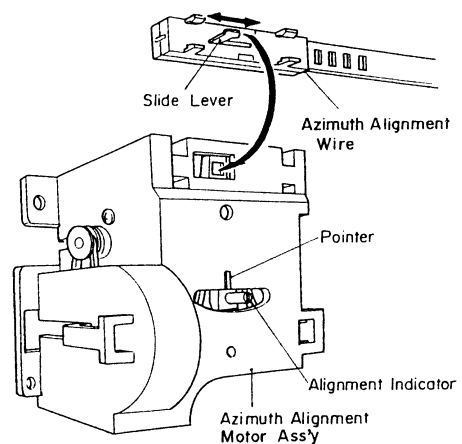

Fig. 4.24
- (m) Set the N-1000ZXL in Stop mode. Mount the Azimuth Alignment Wire on the Azimuth Alignment Motor Ass'y referring to Fig. 4.24. (Correct the position of the Slide Lever of the Azimuth Alignment Wire by sliding by hand, then insert the Slide Lever into the receptacle of the Azimuth Alignment Motor Ass'y.)